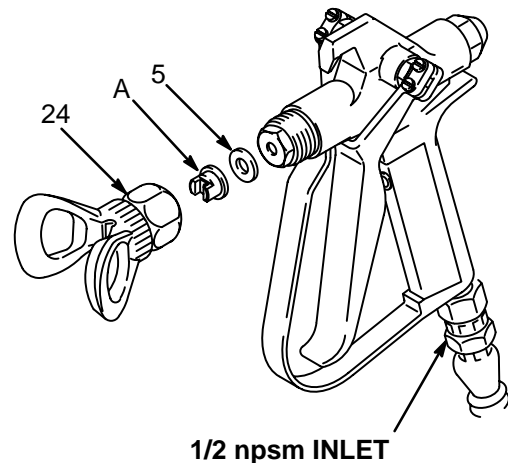
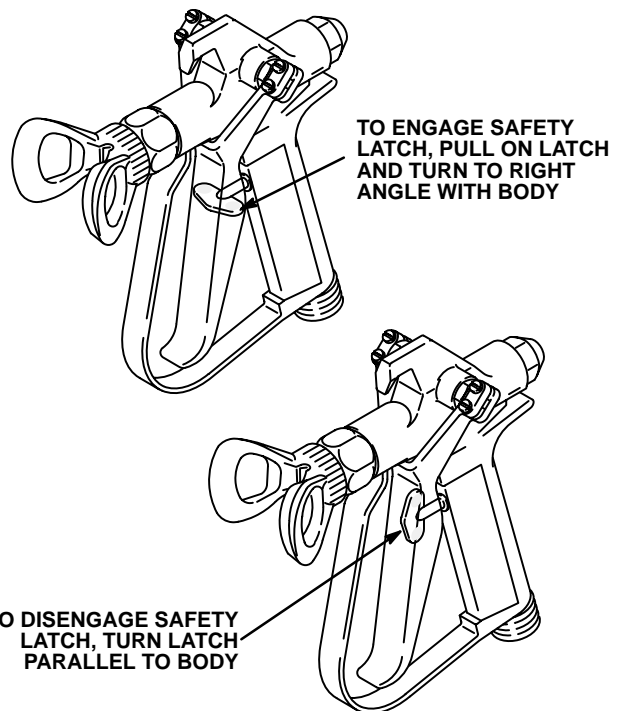

Fig 1 _____ 0957
Fig 2
4. With the gun safety latch engaged (see Fig 2), unscrew the tip guard (21) and install the tip (A) and gasket (5) in the nut of the tip guard. Screw the assembly firmly onto the gun. Tighten with a wrench. See Fig 1.